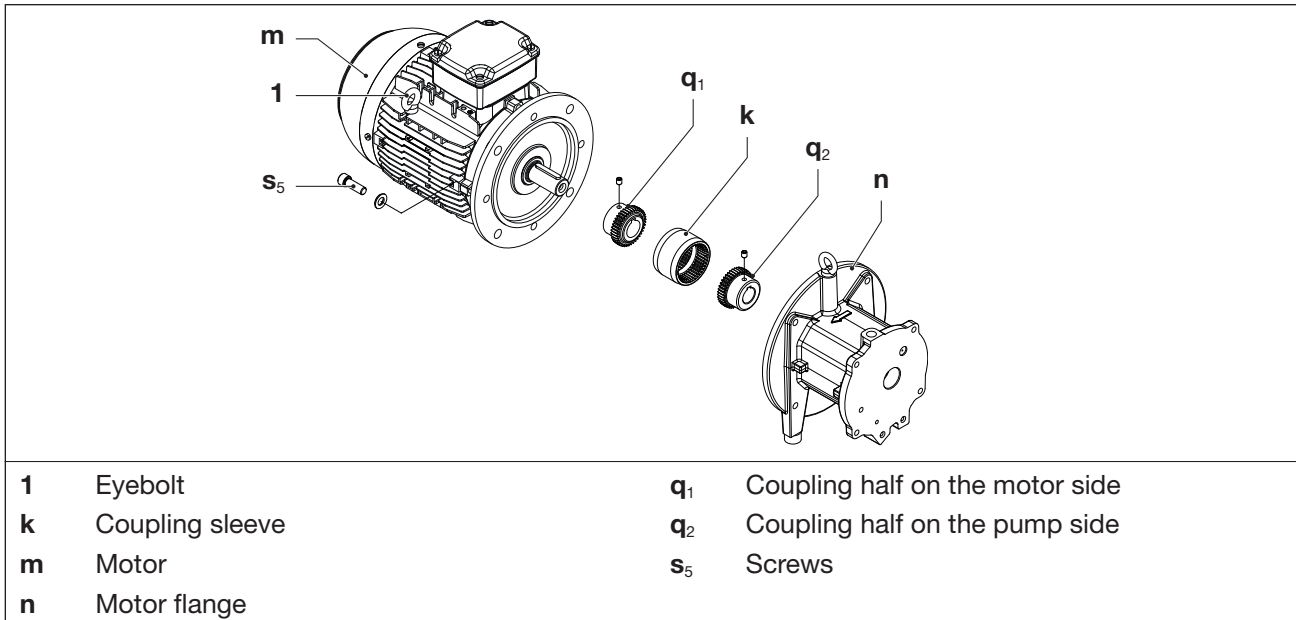

Fig. 10 Coupling
The coupling sleeve (Fig. 10/k) is subject to wear. We recommend that you check the coupling sleeve regularly (1 x per year).
- b) Tighten the eyebolt on the motor (Fig. 10/1) firmly.
- d) Undo the screws (Fig. 10/s₅) on the motor flange (Fig. 10/n).
- e) Remove the motor axially with the coupling half (Fig. 10/q₁) on the motor side from the motor flange (Fig. 10/n) and suspend with the lifting gear.
- f) Check the sleeve (Fig. 10/k) for damage and replace if necessary.
- g) Push the sleeve and motor with coupling half on the motor side again axially and using bolts (Fig. 10/s₅) fix to the motor flange (Fig. 10/n). Tightening torque: 90 Nm